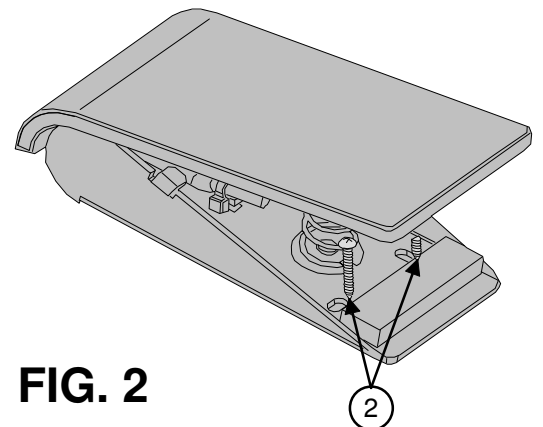

FIG. 2
2. Secure pedal to the floor by removing paperback from adhesive pads on the bottom of the pedal (1) or secure pedal using mounting screws (2). (FIG.2)